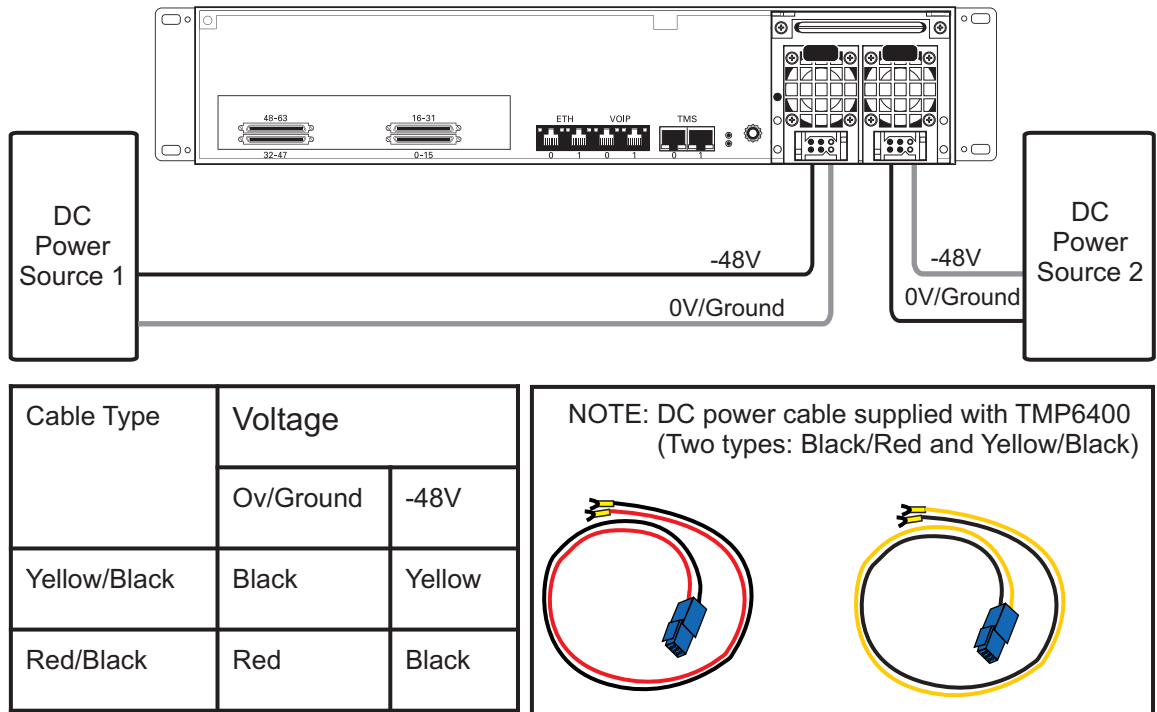

Figure 2.31 DC Power Connection
1. Connect one DC cable, supplied with the TMP6400 Telecom Unit, as shown in figure 2.31 on page 40, to the DC outlet at the rear of the TMP6400 Telecom Unit.
Note Two types of cable with different coloring are available. Refer to figure 2.31 on page 40 for the appropriate wiring information.